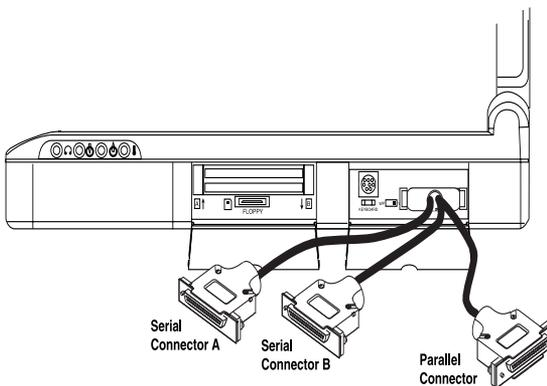

Figure 3-10 Serial and Parallel Connections
The UltraBookIII back panel has a 50-pin connector housing two serial ports and a parallel port (see Figure 3-10).
4. The other end of the I/O break-out cable has two 25-pin connectors for attaching serial devices and a parallel connector for attaching parallel devices (see Figure 3-10). Make the appropriate serial and parallel connections.